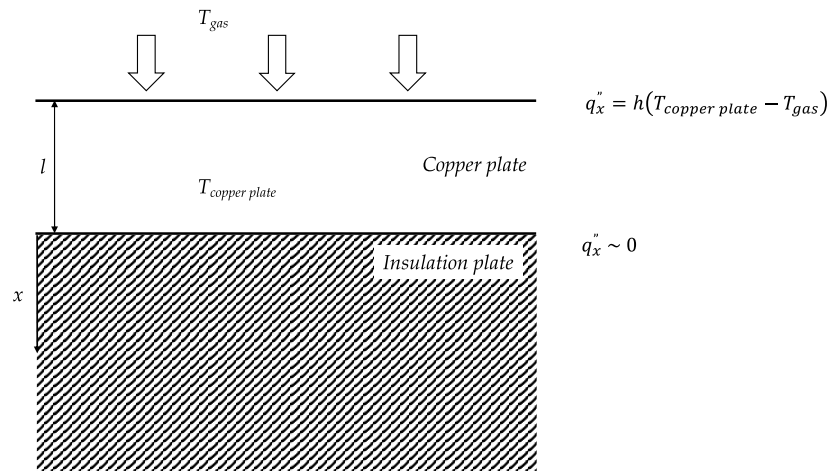

Figure 2 Thermal model of thin copper plate with insulation
3. The thin copper plate is suddenly exposed to the cold gas of 20°C with the uniform heat flux on the upper surface of the plate as shown in the Figure 2. The initial temperature of the copper plate prior to the exposure was 90°C. The insulation plate is attached to the lower surface of the copper plate so that there is no heat loss. The copper plate has the thickness, l of 2mm and the thermal conductivity, k of 400 W/m·K. It is assumed that there is no lateral variation of the temperature of the copper plate.